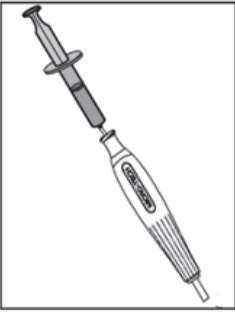
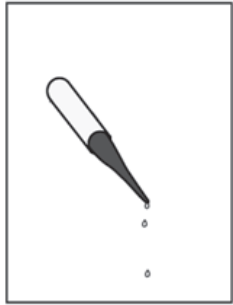

Fig. 3a
Fig. 3b
- It is advisable to flush back handle (guide wire port) of the stent delivery system with a 10cc syringe of saline to expel air. (Refer to Fig. 3a) Continue to flush until the saline flows out of the distal catheter tip. (Refer to Fig. 3b)